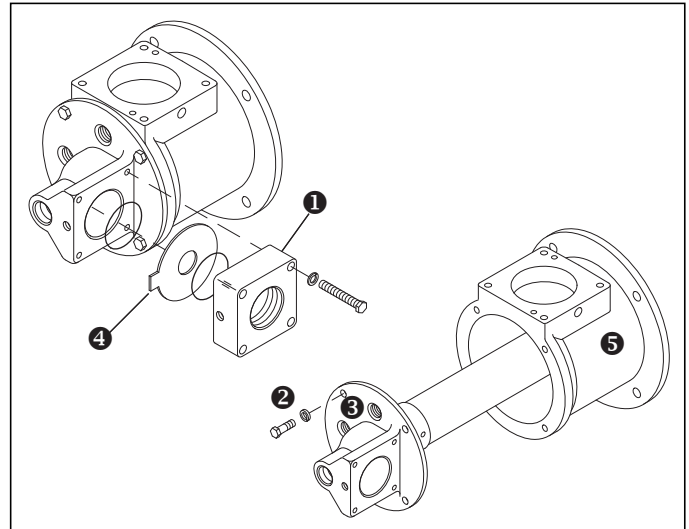

Figure 5.1.
6. Remove and clean the orifice plate ④, see Figure 5.1.
The nozzle and combustion tube/block can be inspected without removing the burner from the chamber wall or entering the chamber. See Figure 5.1. Perform the following: